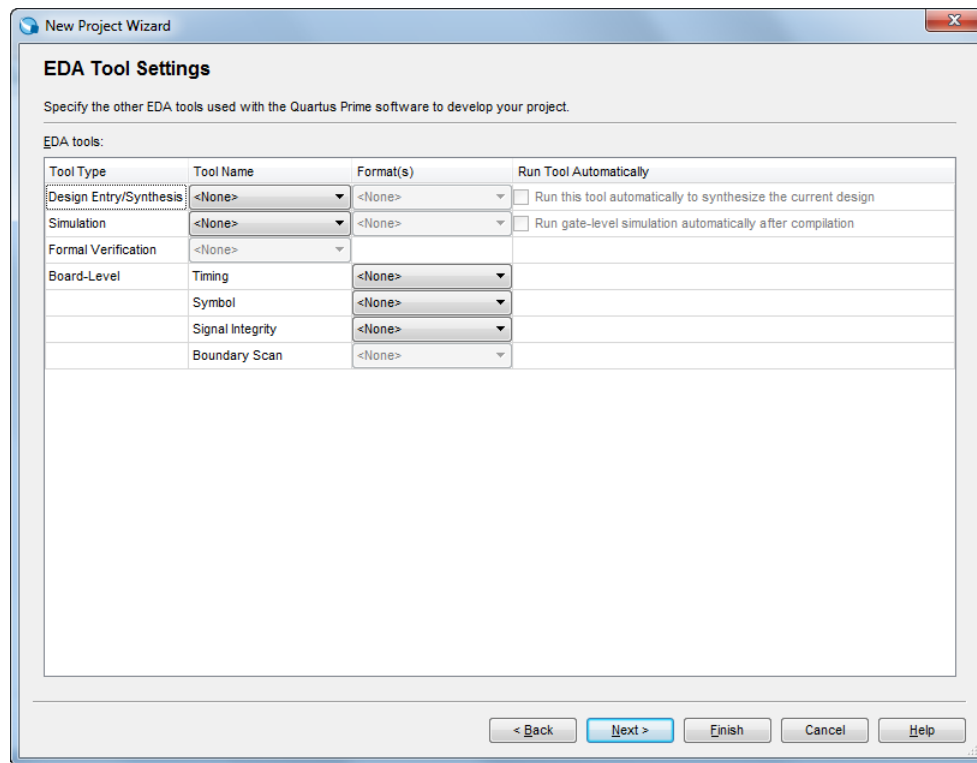

Figure 9. Other EDA tools can be specified.
5. We have to specify the type of device in which the designed circuit will be implemented. Choose the Cyclone-series device family for your DE-series board. We can let Quartus Prime software select a specific device in the family, or we can choose the device explicitly. We will take the latter approach. From the list of available devices, choose the appropriate device name for your DE-series board. A list of devices names on DE-series boards can be found in Table 1. Press **Next**, which opens the window in Figure 9.